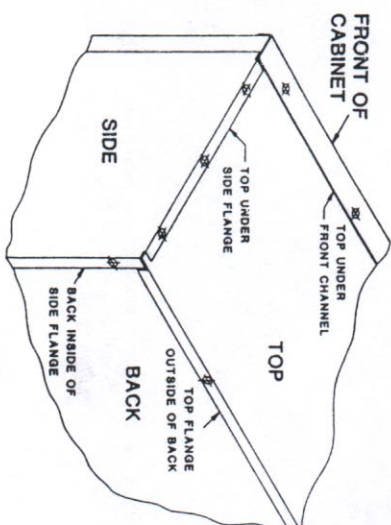

FIGURE 1.2
- 1.1 LAY BACK DOWN FLAT. TAKE A SIDE AND PLACE THE FLANGE ON THE SIDE UNDER THE BACK. (FIG. 1.2) NOTE THAT BOTH SIDES ARE THE SAME AND CAN BE USED ON EITHER SIDE. MAKE SURE SHELF ADJUSTMENT TABS ARE FACING TOWARDS TOP. LINE UP HOLES AND BOLT PARTS TOGETHER WITH NUTS ON INSIDE OF CABINET. HAND TIGHTEN ONLY.
- 1.2 POSITION THE TOP SO THE REAR FLANGE IS UNDER THE BACK AND THE TOP FLANGE OF THE SIDE IS OUTSIDE OF THE TOP (FIG. 1.2) BOLT PARTS TOGETHER. HAND TIGHTEN ONLY.